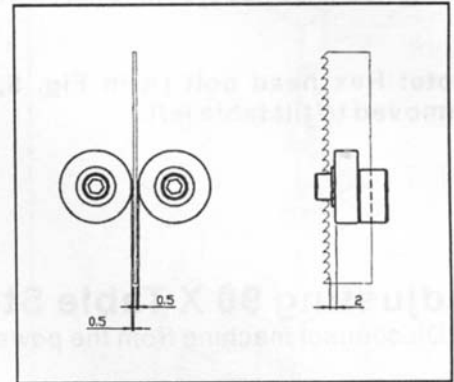

Fig. 8
1. Set the bearing of upper & lower blade guide to within approx. 0.5mm of the blade, make sure the bearing the back of the blade approx. 0.5mm. (Fig.8,9) see follow instruction.(AA,BB)